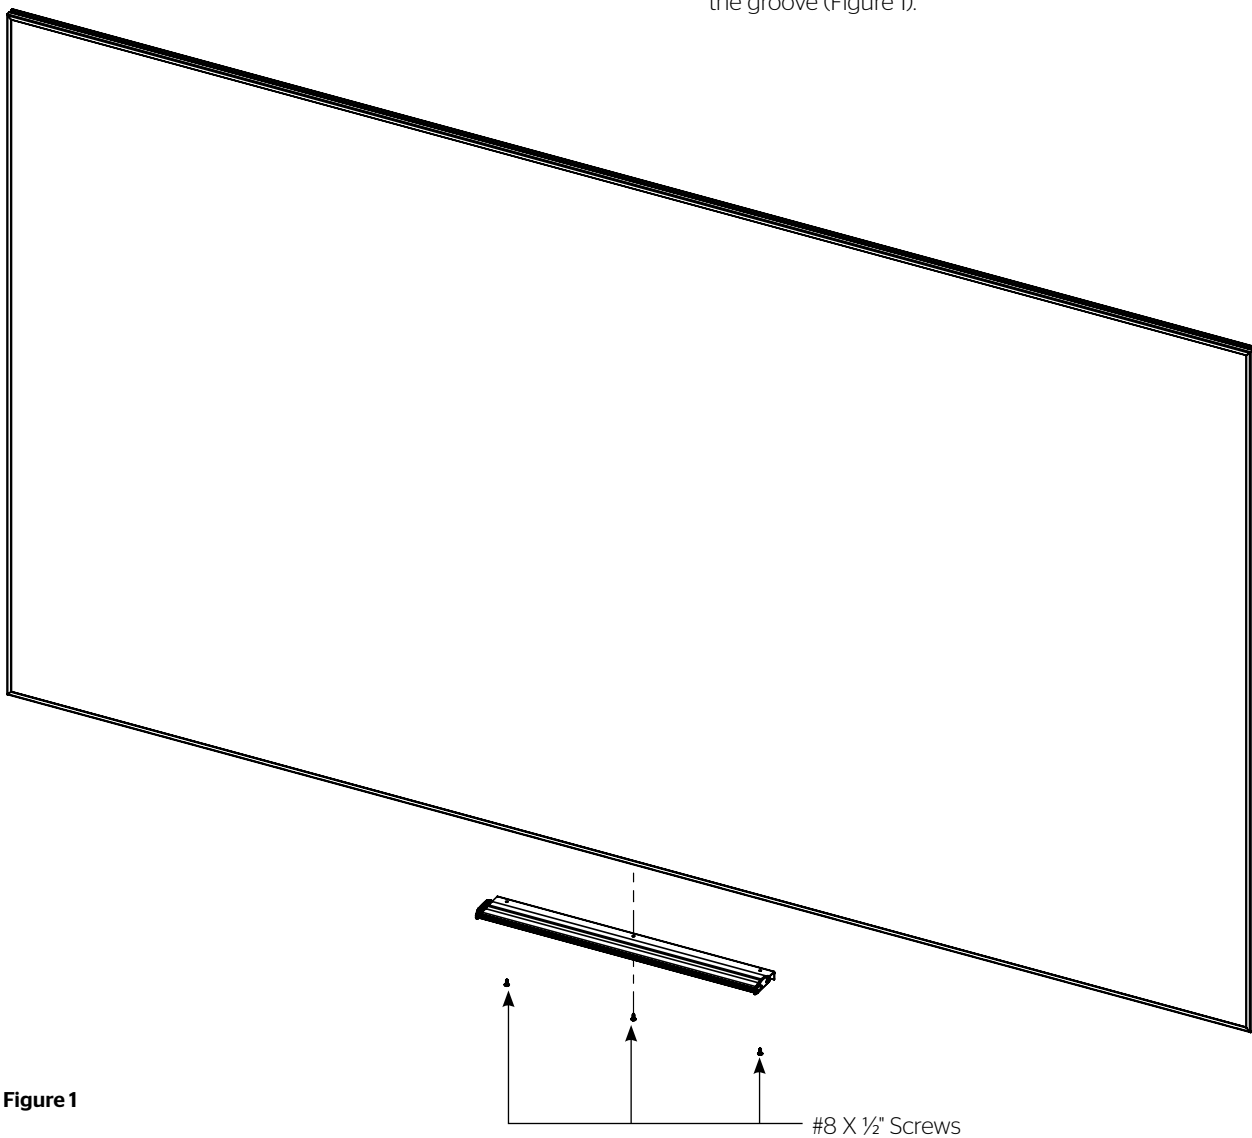

Figure 1
2. Center aluminum tray to the bottom of frame and attach with (3) of the provided #8 x ½" screws. Insert screws through the tray into the groove (Figure 1).